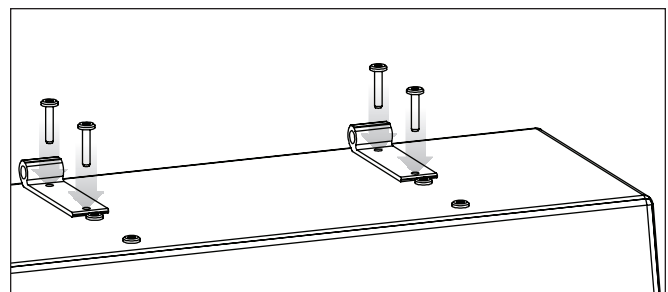

Figure 11. Reinstalling the EFX cabinet brackets.
- 8 Rotate the cabinet brackets 180 degrees and install them on the opposite side of the cabinet (see figure 11).